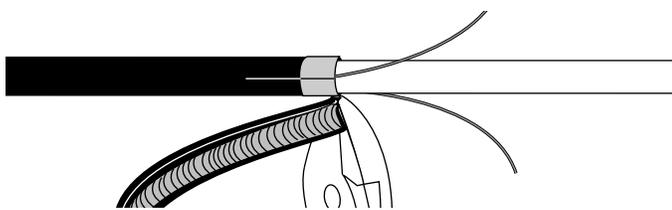

Figure 12
**4.17** Carefully flex the sections of armor and sheath and remove them. Side cutters may be helpful in removal (Figure 12).